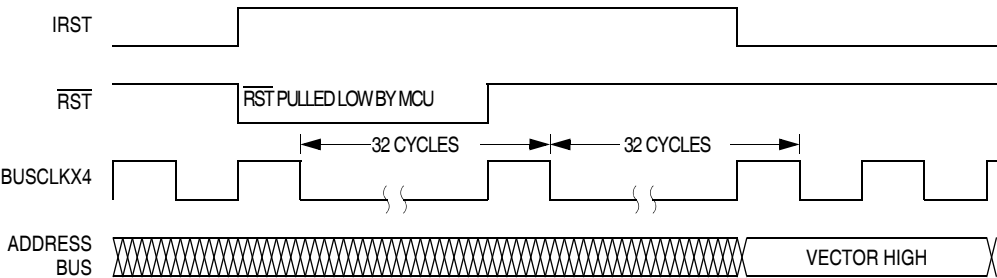
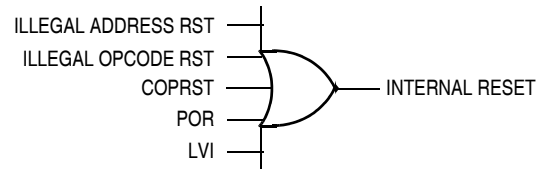

**Figure 13-4. Internal Reset Timing**
**Figure 13-5. Sources of Internal Reset**
*For POR and LVI resets, the SIM cycles through 4096 BUSCLKX4 cycles during which the SIM forces the  $\overline{\text{RST}}$  pin low. The internal reset signal then follows the sequence from the falling edge of  $\overline{\text{RST}}$  shown in Figure 13-4.*
All internal reset sources actively pull the  $\overline{\text{RST}}$  pin low for 32 BUSCLKX4 cycles to allow resetting of external peripherals. The internal reset signal IRST continues to be asserted for an additional 32 cycles (see Figure 13-4). An internal reset can be caused by an illegal address, illegal opcode, COP time out, LVI, or POR (see Figure 13-5).